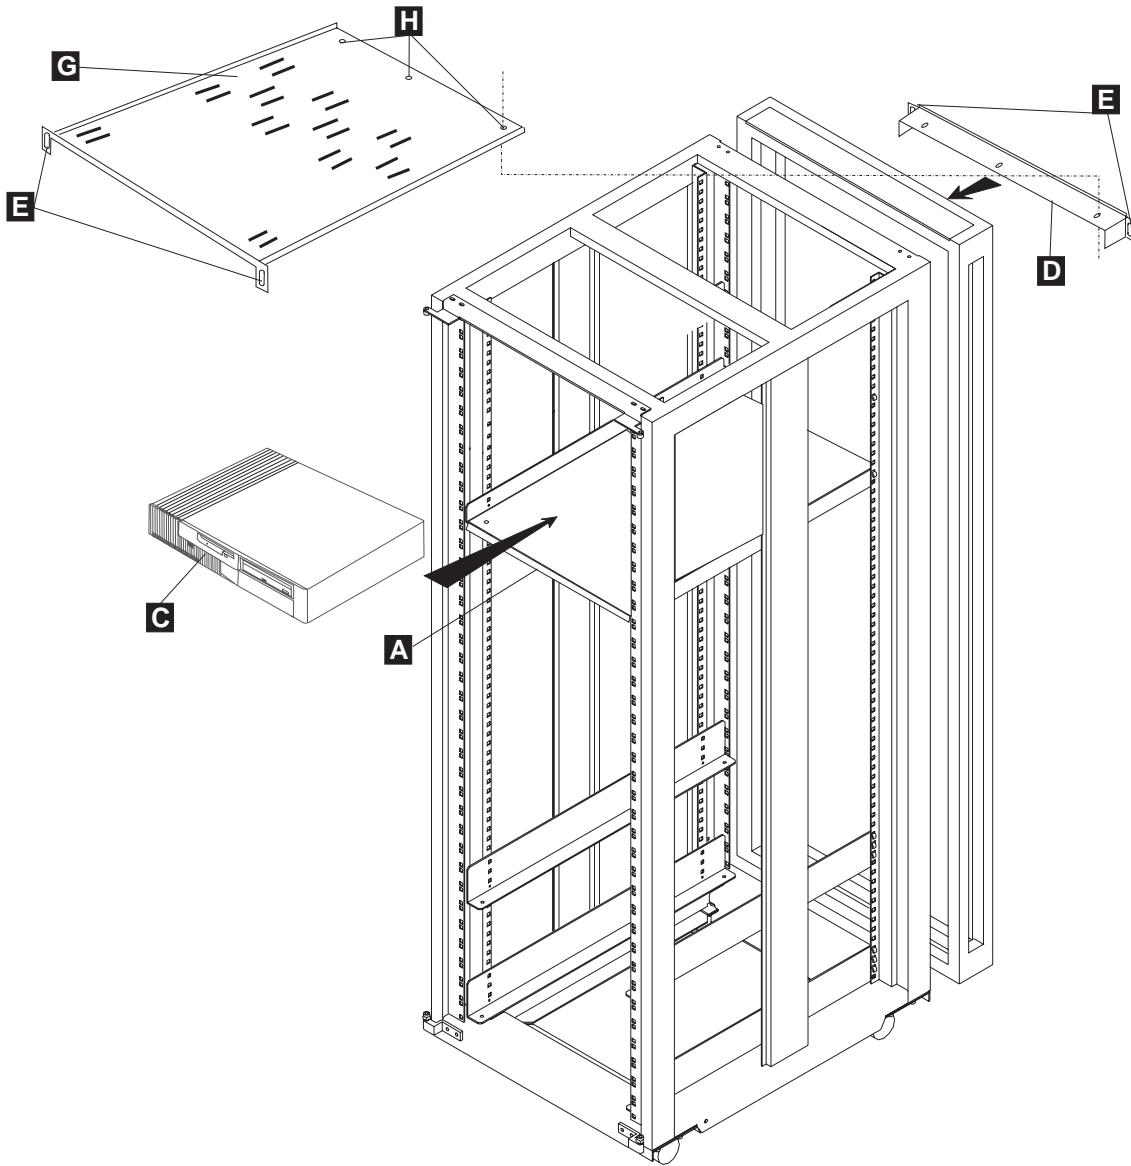

Figure 5-9. NAS and Upper Plate Installation
1. Install the NAS **C** on the lower plate **A** (see Figure 5-9).